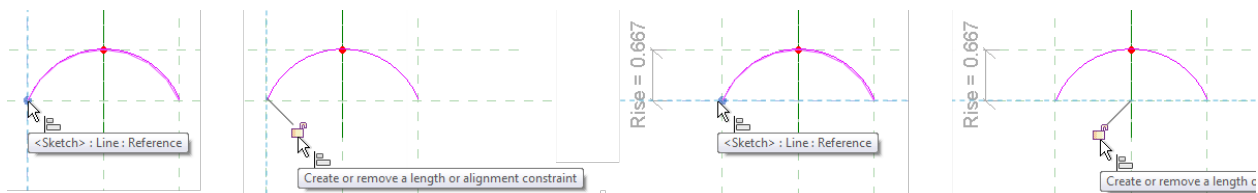

Figure 28—Align and lock the endpoints of the arc to the reference planes in both directions
12. Using the Align tool, align and lock the start and end points of the arc to the reference planes in both directions (see Figure 28).